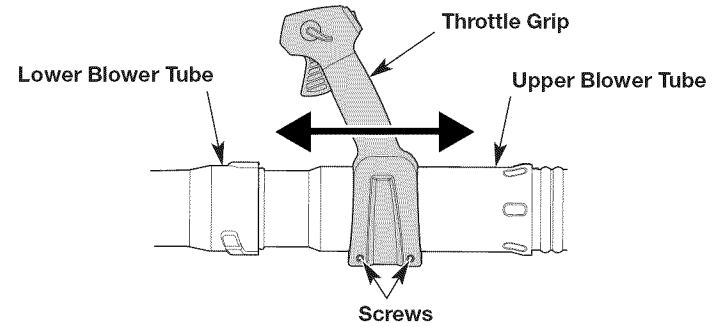

Fig. 6
1. Move the throttle grip to a location on the upper blower tube that provides the best grip (Fig. 6).
2. Tighten the two screws on the throttle grip with a T-20 Torx® screwdriver until the throttle grip is secure (Fig. 6).